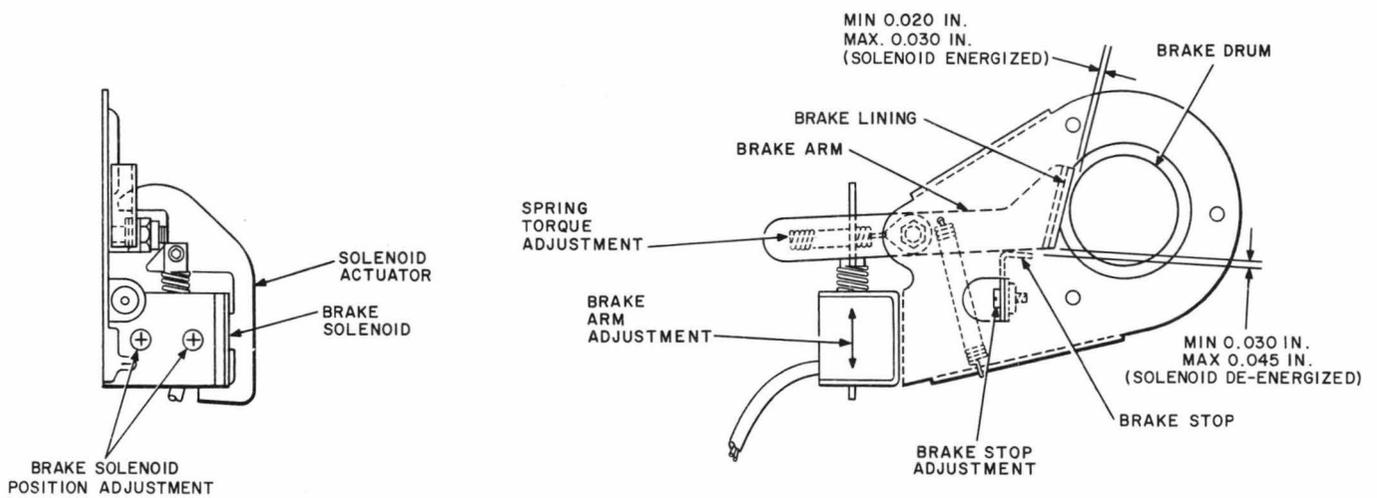

Fig. 6 — Brake Assembly
(f) Clean brake drums (Fig. 6) after 500 hours running time to remove brake lining residue and grease film.
(a) Clearance between brake lining and brake drum (Fig. 6) shall be as follows:
(2) Use the 92-type gauges to check clearance between brake lining and brake drum (Fig. 6).
To check this requirement, ensure that brake solenoid is de-energized by depressing STOP switch and using the proper 92-type gauges to measure clearance between brake arm and brake stop (Fig. 6).
(c) Clearance between brake solenoid and solenoid actuator (Fig. 6) shall be such that actuator is not binding against brake solenoid, allowing smooth operation free of interference. Gauge by eye.